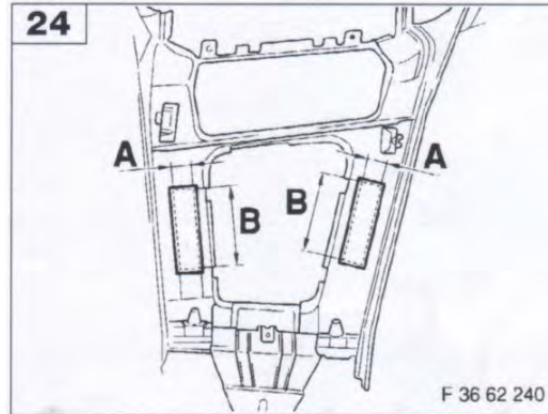

Figure 29 – Window Switch Cutouts
8.1.1 The shifter console must be modified by cutting out square holes to accept the window switches. Figure 29 shows a sketch of the cutouts, which just extends the existing cutouts for the front door switches, where A = 25mm (0.984 in) and B = 82mm (3.228 in).